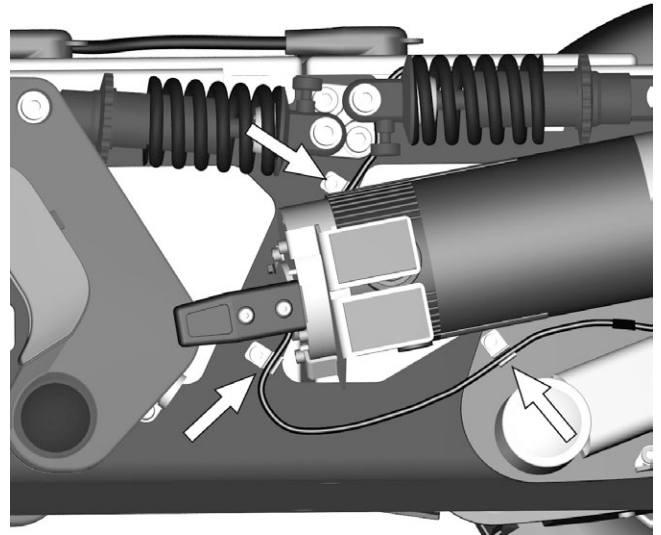

Figure 163. The cable is assembled with three cable brackets on the left and right hand side of the chassis.
6. Remove the cable from its cable brackets on the left and right hand side of the chassis. See fig. 163.